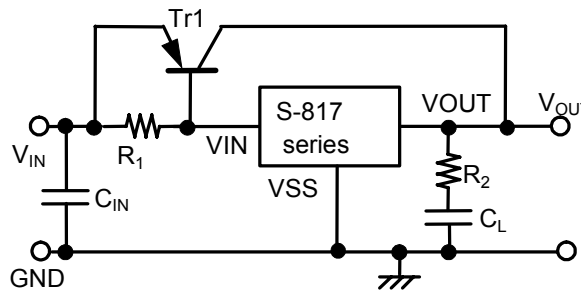

Figure 15
As shown in **Figure 15**, the output current can be boosted by externally attaching a PNP transistor. The base current of the PNP transistor is controlled so that output voltage ( $V_{OUT}$ ) goes the voltage specified in the S-817 Series when base-emitter voltage ( $V_{BE}$ ) necessary to turn on the PNP transistor is obtained between input voltage ( $V_{IN}$ ) and S-817 Series power source pin ( $V_{IN}$ ).
- To improve transient response characteristics of the output current boosting circuit shown in **Figure 15**, check that no problem occurs due to output fluctuation at powering on or due to power or load fluctuation under normal operating conditions.
The following graphs show the examples of input-output voltage characteristics ( $T_a=25^\circ\text{C}$ , typ.) in the output current boosting circuit as seen in Figure 15: